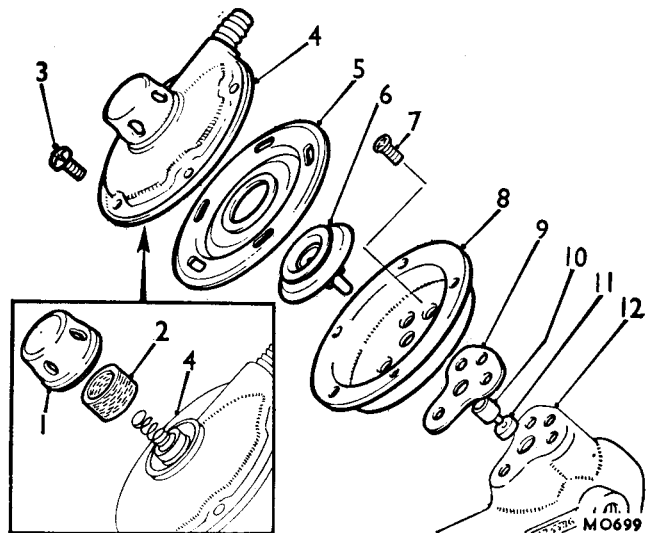

Fig. M.10
**AIR VALVE ASSEMBLY (FIG. M.10)**
**AIR VALVE ASSEMBLY (Fig. M.10)**
25. Refit or replace the filter and snap-fit the dome cover if these have been removed in item (6). Place the valve cover over the diaphragm making sure that the projections on the under surface of the cover engage in the slots of the diaphragm. Tighten the five securing screws firmly, progressively and diametrically; do not overtighten, since the smallest air leakage into the air valve assembly will impair the action of the servo.
27. Reverse the removing procedure, items 1 to 4.